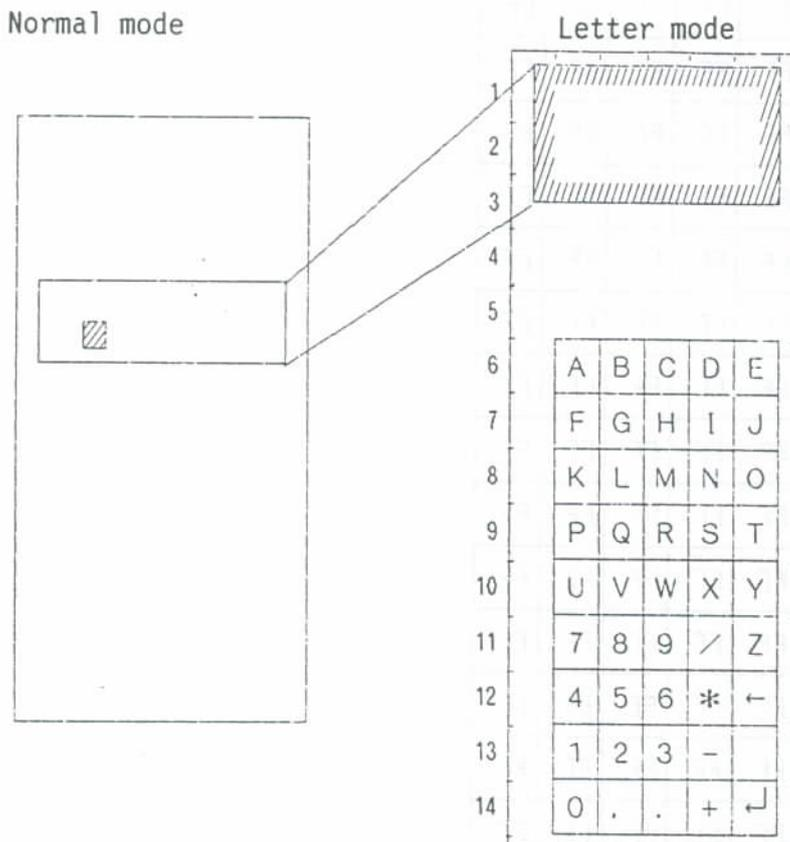

Fig. 4.15 Screen display in letter mode
- (a) Figure 4.15 shows the letter input screen.